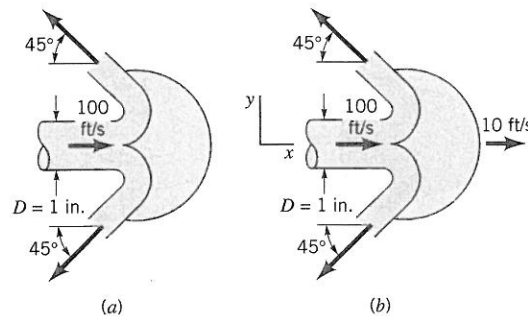

Figure P5.74
5.74 A Pelton wheel vane directs a horizontal, circular cross-sectional jet of water symmetrically as indicated in Fig. P5.74 and Video V5.6. The jet leaves the nozzle with a velocity of 100 ft/s. Determine the x -direction component of anchoring force required to (a) hold the vane stationary, (b) confine the speed of the vane to a value of 10 ft/s to the right. The fluid speed magnitude remains constant along the vane surface.